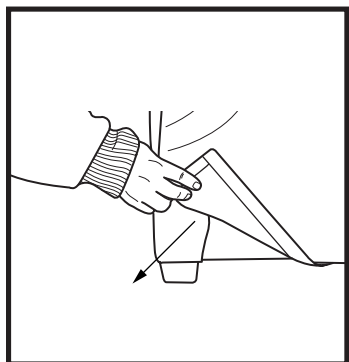

Figure 5. Chair Back Hook and Loop Flaps (Installation)
4. Attach the chair back fabric to the hook and loop flaps on the bottom of the chair base. See figure 5.